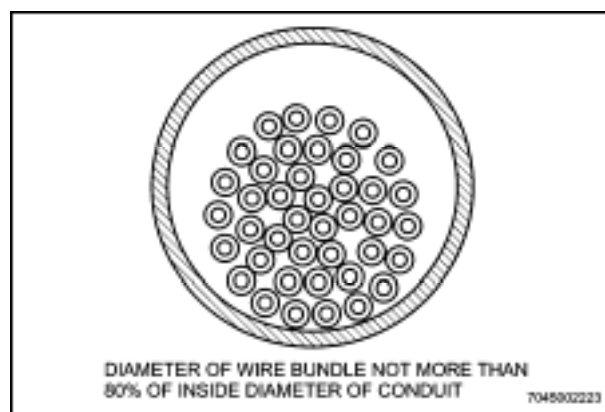

Figure 4-27 Conduit Capacity
77. Measure the bundle wires before installing in conduit. In accordance with Specification SAE AS50881, the bundle diameter must not exceed 80% of the internal diameter of the conduit. (See Figure 4-27)